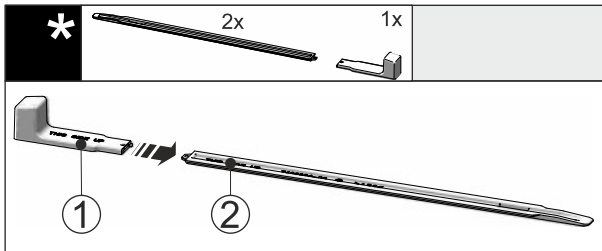

Fig. 49
- ▶ Attach the installation handle Fig. 49 (1) to the levelling rail Fig. 49 (2).